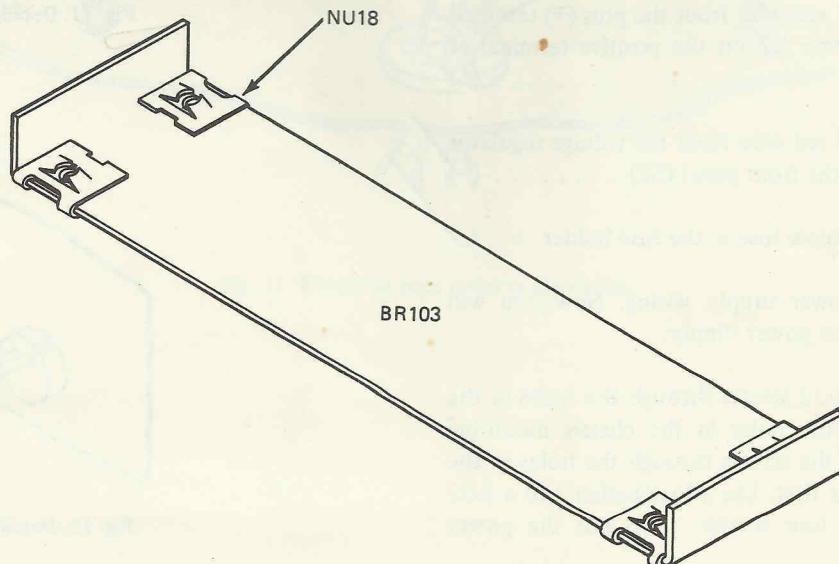

Fig. 13. The alignment bracket with four Tinnerman nuts in place.
(2) Now locate the two cabinet alignment brackets (BR103) and mount four Tinnerman nuts on the brackets over the four holes as shown in Fig. 13. The raised portion of the Tinnerman nut goes on the inside of the U-shaped brackets. ()